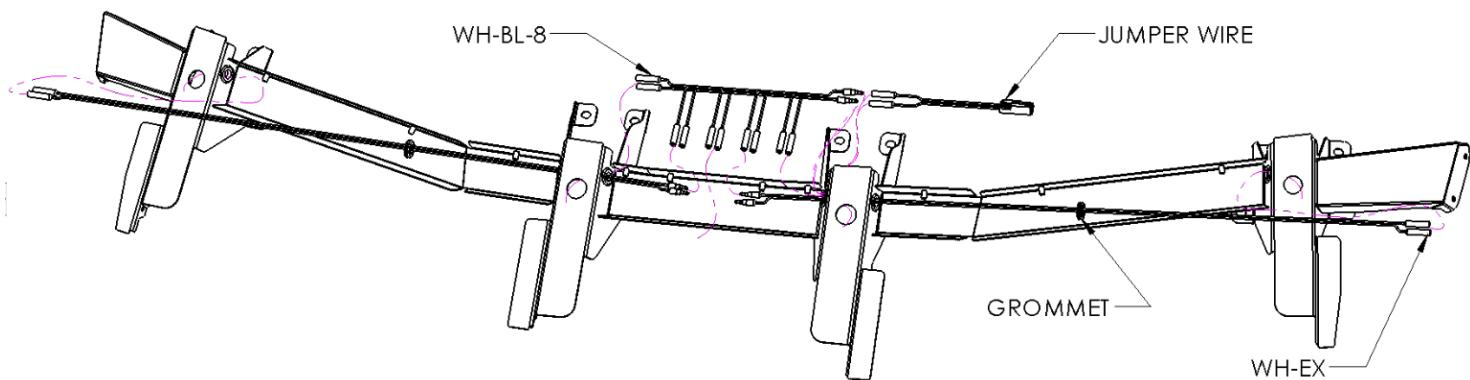

Figure 7
- Connect wire as shown (see figure 7 & 8).